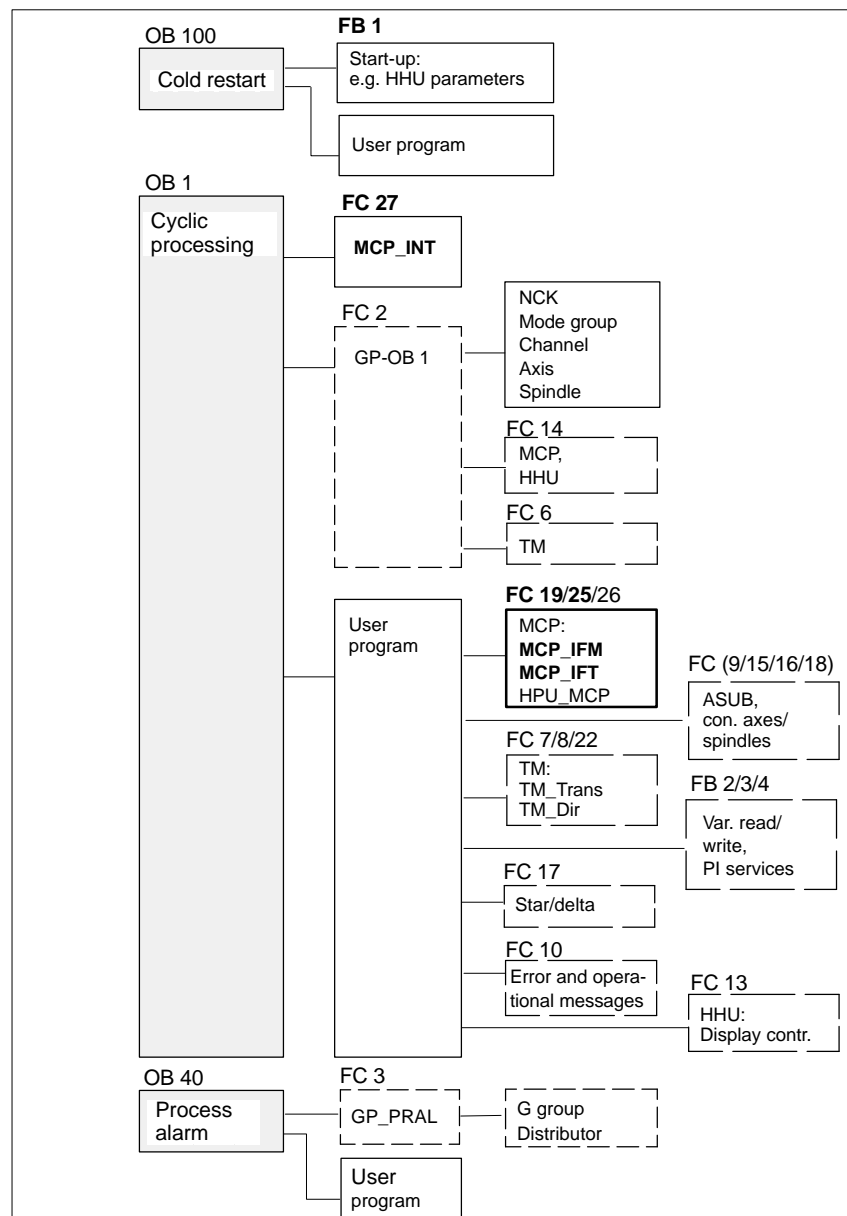

Fig. 7-10 Structure of the PLC program
The user (machine manufacturer) must call the appropriate section of the basic program in OBs 1, 40, and 100 (see Fig. 7-10).
5. Insert block FC 19 or FC 25 in cyclic part of the PLC program (see Fig. 7-10, Page 7-169).